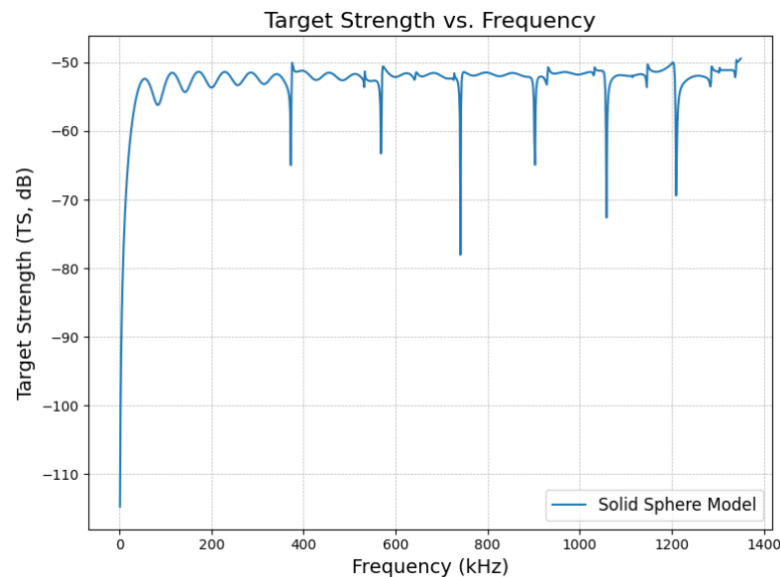

Figure 3: Output plot for a range of frequency for solid sphere.
5. A graph of TS vs Frequency will also be generated as shown in the figure 3.